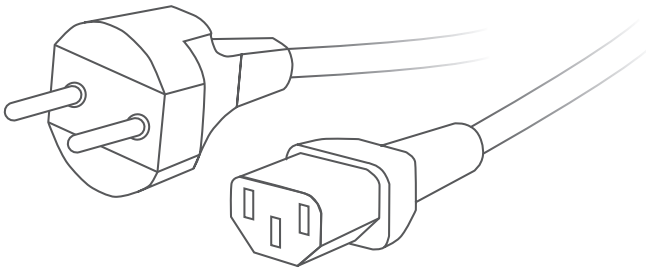

Figure 7. Connector and plug of the power cord
- the plug must meet the standard CEE 7/7 (Fig.7),
- the connector must correspond to IEC 320 C13 female (Fig.7),